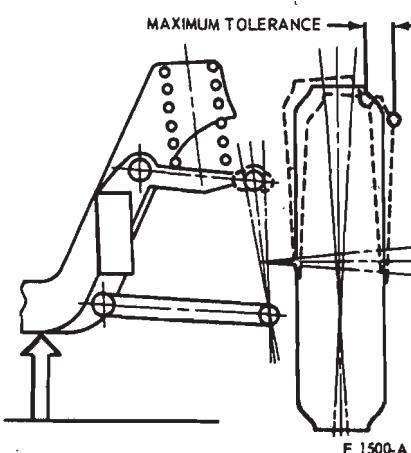

FIG. 13—Measuring Upper Ball Joint Radial Play
1. Raise the vehicle on a frame contact hoist or by floor jacks placed beneath the underbody until the wheel falls to the full down position as shown in Fig. 13. This will unload the upper ball joint.
bottom, and slowly move the tire in and out (Fig. 13). Note the reading (radial play) on the dial indicator. If the reading exceeds specifications, replace the upper ball joint.